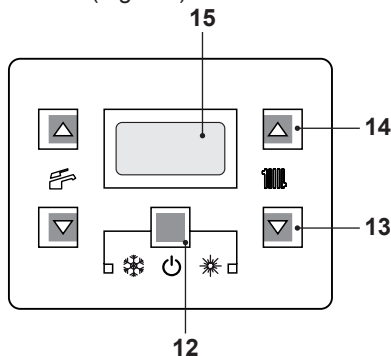
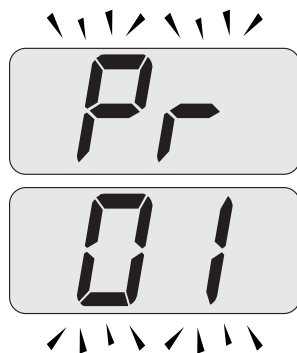

Fig. 8.7
Fig. 8.8
- Enter in "programming mode" by sequentially pressing and holding keys 12 - 13 - 14 (Fig. 8.7) for 10 seconds at the same time until the letters **Pr** that alternate with code 01 are displayed on the LCD display, indicating that "parameter 01", has been activated (Fig. 8.8).
- Press keys 12 and 14 (Fig. 8.7) at the same time until the value of parameter 15 (Fig. 8.10) is displayed on the LCD display.
- By pressing key 12 (Fig. 8.7) confirmation of the inserted value is obtained.
- Press keys 12 and 13 (Fig. 8.7) at the same time to exit without changing the value (return to the parameters list Fig. 8.9).
- Press sequentially keys, 12 - 13 and then 14 (Fig. 8.7) and hold in for 10 seconds to exit the "programming mode".
However, if the ambient temperature is not comfortable, the flow temperature of the heating system can be increased or reduced by  $\pm 15^{\circ}\text{C}$  by pressing keys 13 (reduce) and 14 (increase) (Fig. 8.7).